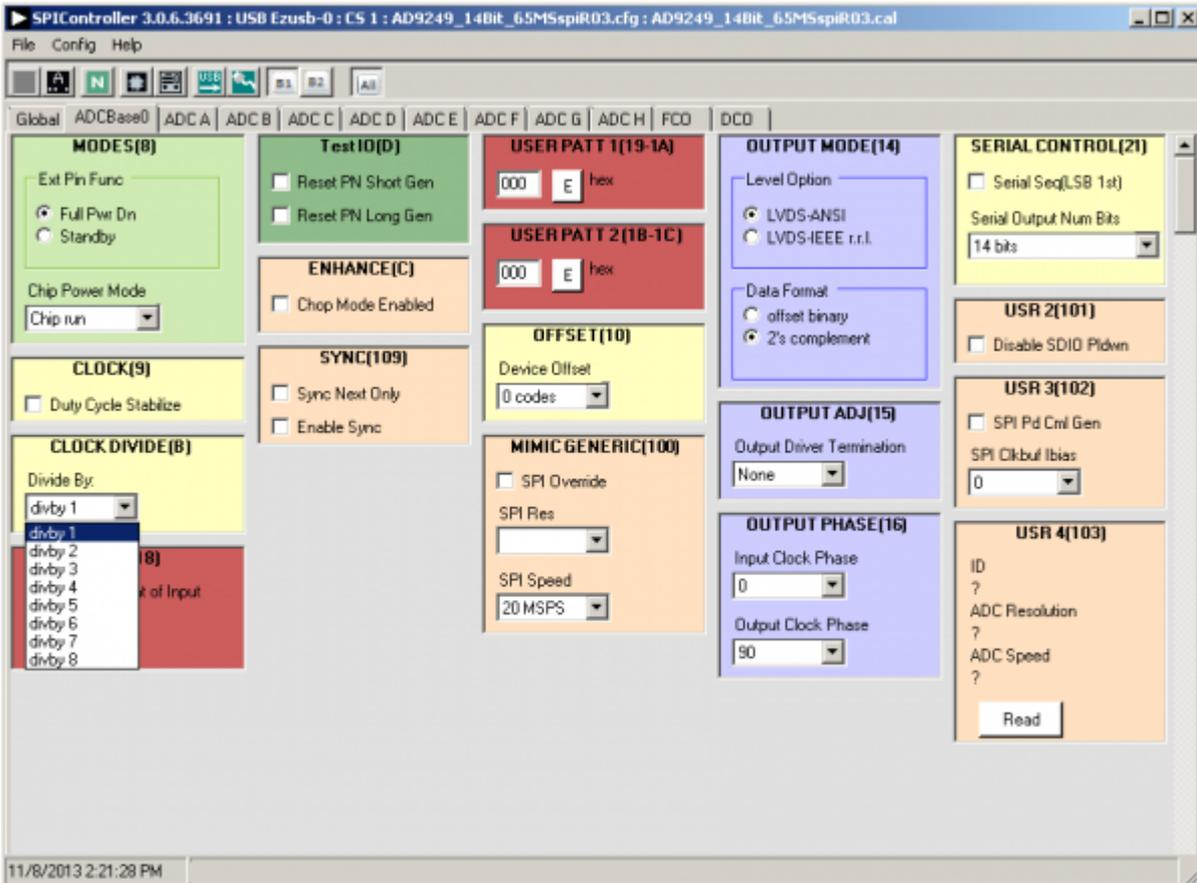
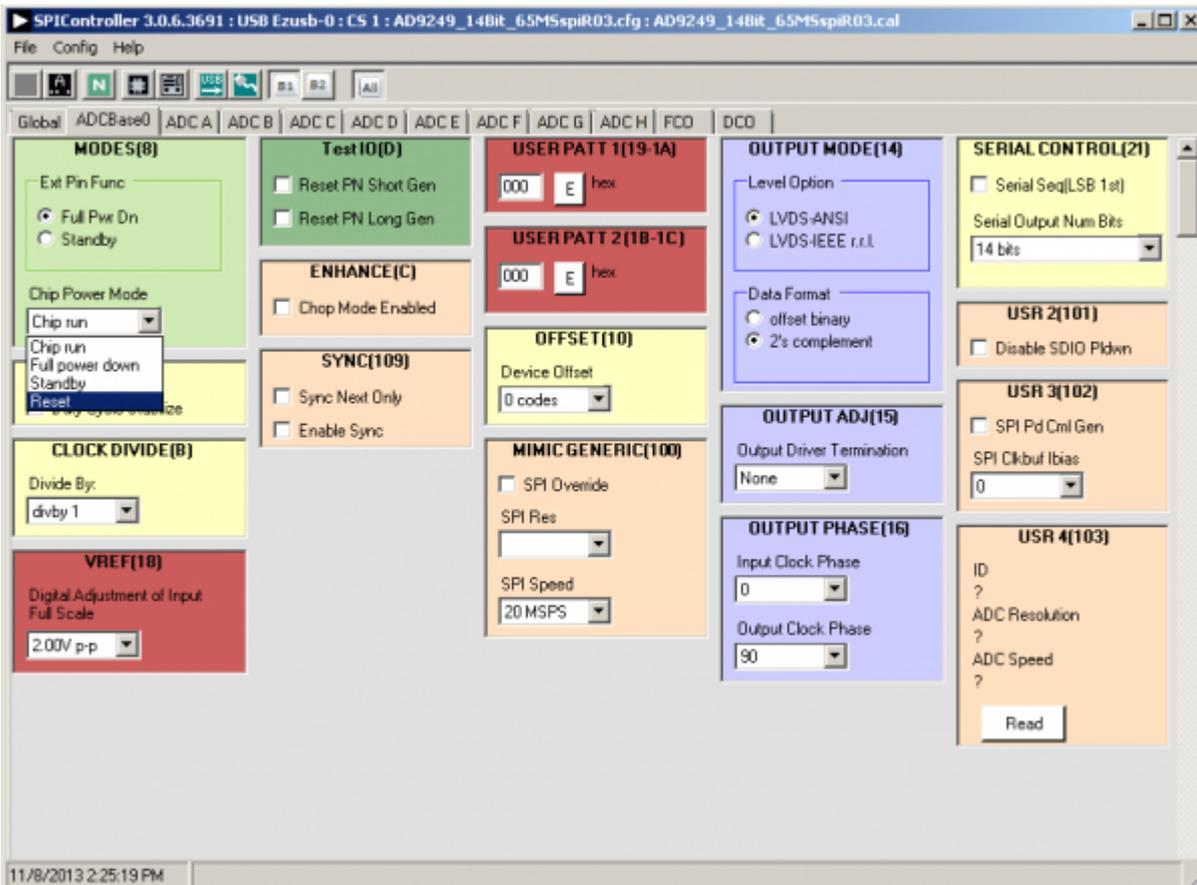
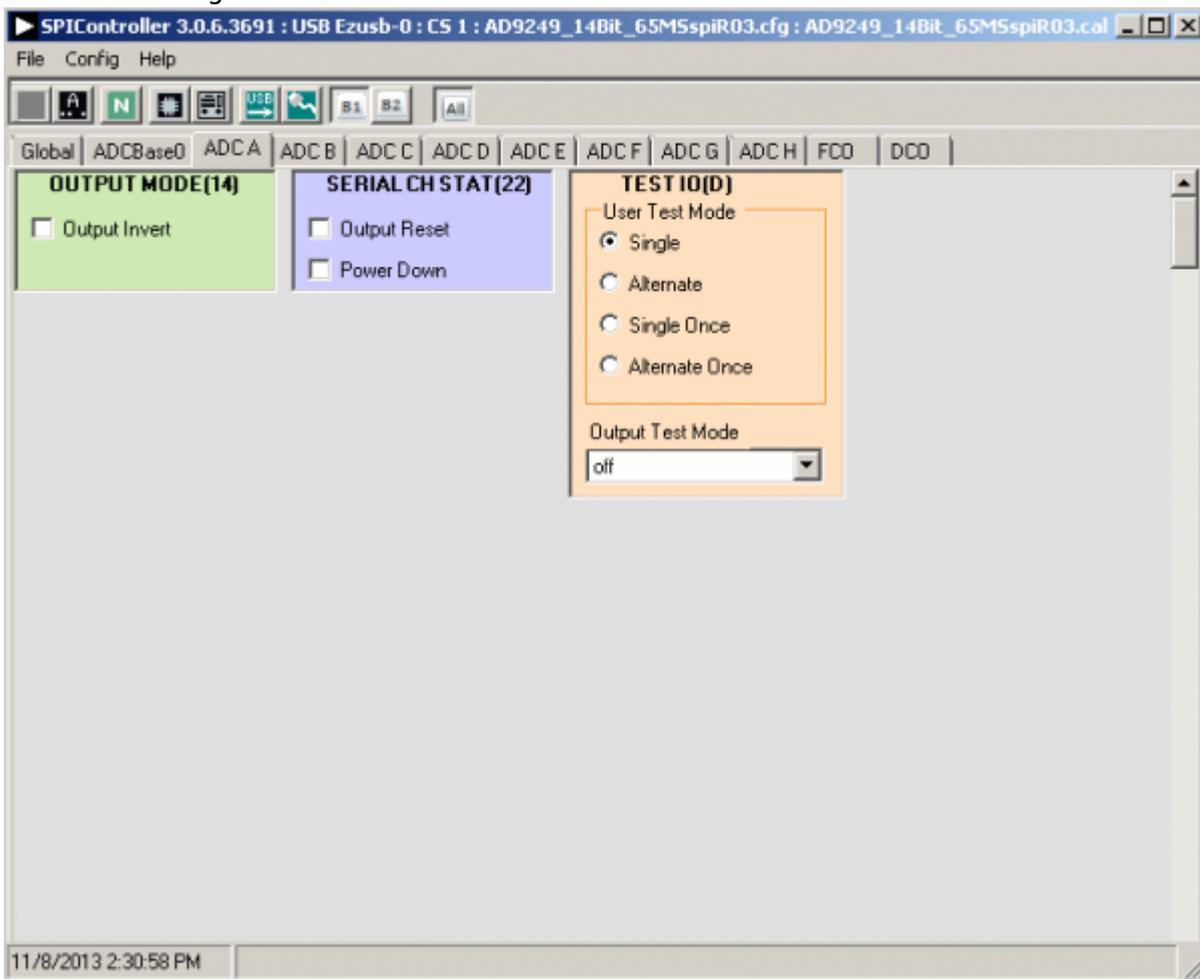

Figure 12. SPI Controller, CLOCK DIVIDE(B) Box
Figure 13. SPI Controller, Chip Power Mode - Digital Reset Selection
Figure 14. SPI Controller, Example ADC A Page
3. In the **ADCBASE 0** tab of the **SPIController** window, find the **CLOCK DIVIDE(B)** box (see Figure 12), and the **MODES(8)** box (see Figure 13). If using the clock divider, use the drop-down box to select the correct clock divide ratio, if necessary. If there is any interruption of the ADC clock during power-up or during operation, a Digital Reset may be needed to re-initialize the ADC (Figure 13). For additional information, refer to the data sheet, the AN-878 Application Note, High Speed ADC SPI Control Software, and the AN-877 Application Note, Interfacing to High Speed ADCs via SPI.
4. Note that other settings can be changed on the **ADCBASE 0** tab (see Figure 12) and the **ADC A**
through **ADC H** tabs (see Figure 14) to set up the part in the desired mode. The **ADCBase 0** tab settings affect the entire part, whereas the settings on the **ADC A** through **ADC H** tabs each affect the selected channel only. The B1 (Bank1), B2 (Bank2) and All buttons at the right end of the SPIController button row (as seen in Figure 13 and Figure 14) determine which bank of ADCs is affected by the SPIController settings. The All button is pushed by default which means that the **ADCBase 0** tab settings affect all channels on both ADC banks. The settings in the **ADC A** through **ADC H** will likewise affect their respective channels in both banks. For example, with the All button pushed, settings in the **ADC A** tab will affect channels A1 and A2. If the All button is un-pushed and the B1 (Bank1) button remains pushed, the settings in the **ADC A** tab will only affect channel A1. See the data sheet, the AN-878 Application Note, High Speed ADC SPI Control Software, and the AN-877 Application Note, Interfacing to High Speed ADCs via SPI, for additional information on the available settings.
5. Invoke a Digital Reset as shown in Figure 13 before testing. After selecting Reset, select Chip run to return to normal operation.
- If you see an abnormal noise floor, go to the **ADCBase0** tab of the **SPIController** window and toggle the **Chip Power Mode** in **MODES(8)** from **Chip Run** to **Reset** and back (Figure 13).